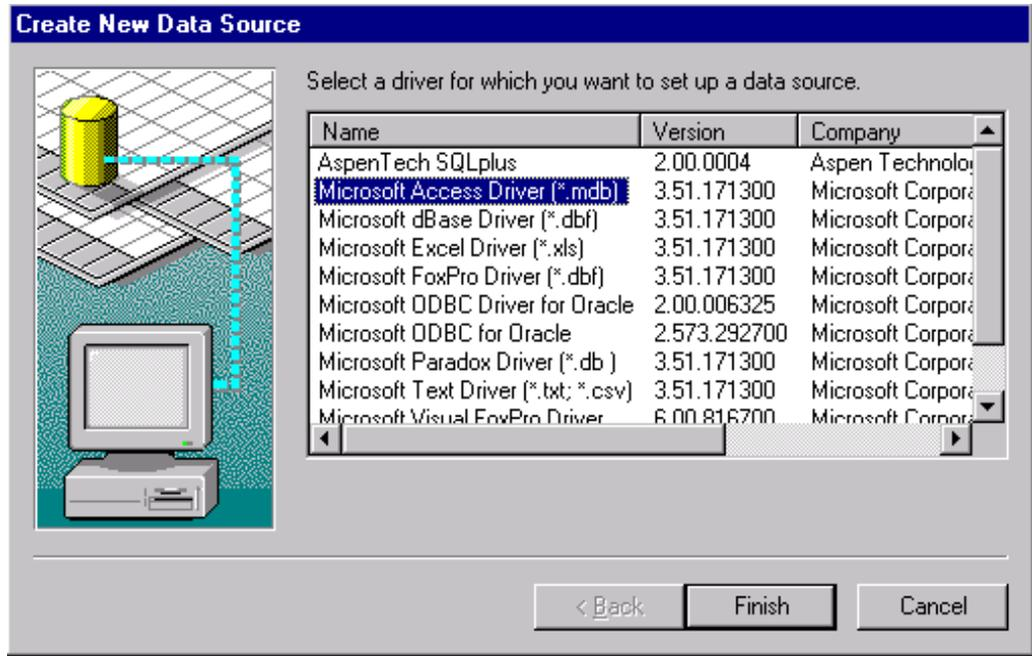

Figure A-2: Create New Data Source Dialog Box
3. Click Add. The Create New Data Source dialog box appears (Figure A-2).